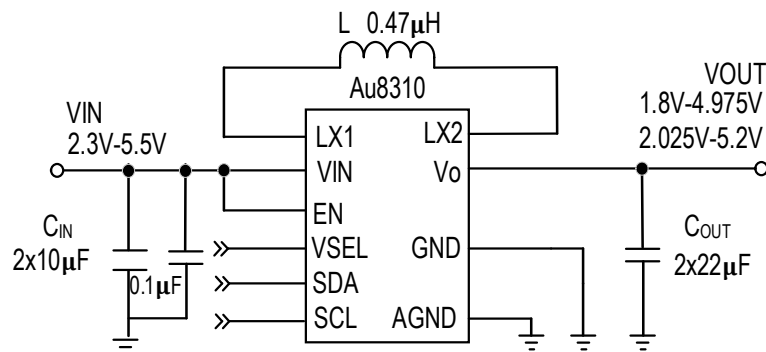

Figure 41 Typical Application Circuit
The application schematic of Figure 41 was developed to meet the requirements above. This circuit is available as the Au8310 evaluation module. The design procedure is given in this section.
- Layout is a critical portion of good power supply design. See Figure 41 for a PCB layout example.